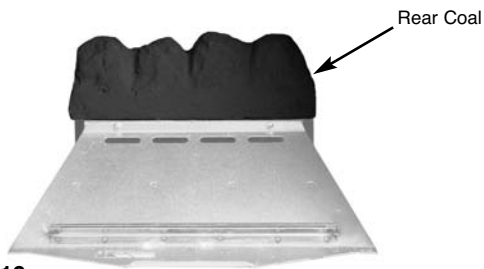

Fig. 19
1. Place the rear coal on the rear coal retainer ledge in a central position (Fig. 19).